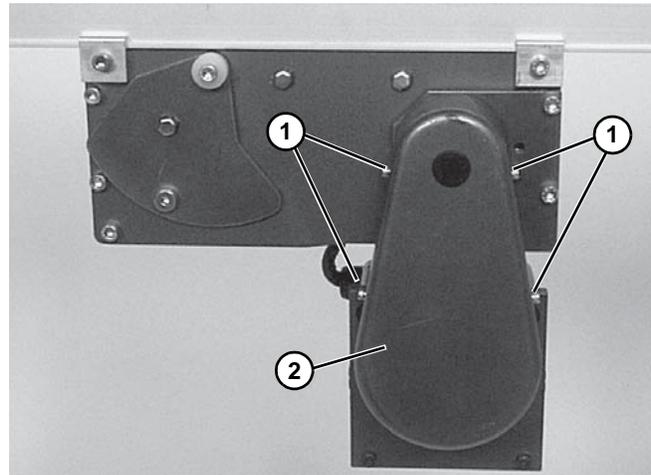

Figure 48
- Remove cover screws (**Figure 48, item 1**) and remove cover (**Figure 48, item 2**).